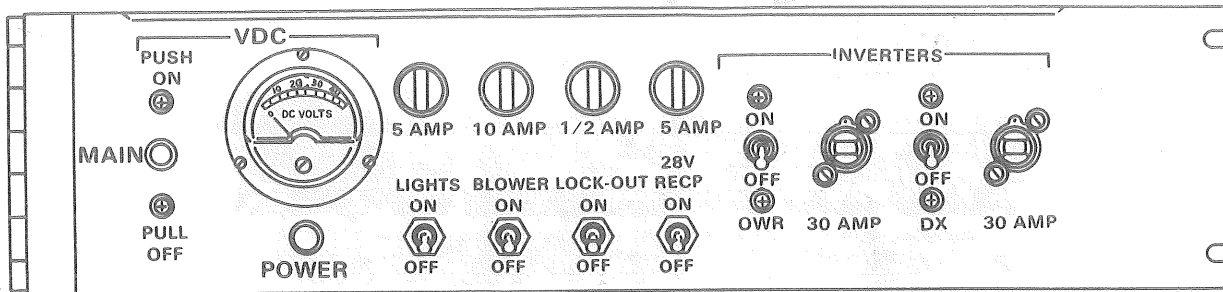

Figure 4
- (1) Place all circuit breaker switches and equipment switches to OFF.
- (2) Insure shelter and portable generator (if used) are properly grounded.
- (3) Insure PUSH-ON PULL-OFF circuit breaker of AN/GRC-142 or AN/GRC-122 is in the PULL-OFF position as shown in figure 4.